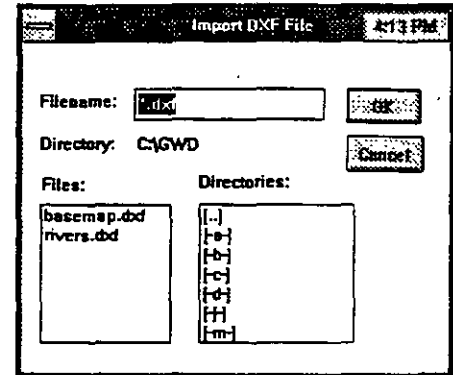
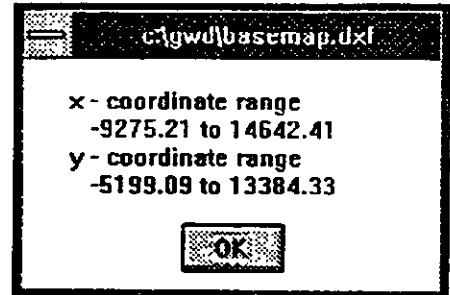

Figure 15-10
Figure 15-11
15.2.7. Make Legend You will notice a block of options on the **Map** menu, Figure 15-2, on the **Grid** menu, Figure 15-11 (Add to Legend), and on the **Random** menu, Figure 15-26, on the **Area** menu, Figure 15-40, and on the **Line** menu, Figure 15-46.
.DXF images. Normally, it will import two-dimensional contour lines, other lines such as roads, rivers, and the like, and some limited text. When you select this option, the program will display a dialogue box such as the one shown in Figure 15-10 prompting you to select a file with a .dxf extension. The program will then translate the file and display the range of X and Y coordinates and the range of Z values for contouring on the screen.
2. Select **Import DXF File**. As shown in Figure 15-10 double click on the file name `basemap.dxf`. There will be a window showing the current operation, which is reading the file, line by line. It is a huge file, and it will take some time to read it all. When the reading is done, there will be a window displaying the range of the values of the X and Y coordinates, as shown in Figure 15-11. The range for the X coordinate is from -9275.2 to 14642.41, and for Y coordinate it is from -5199.09 to 13384.33.